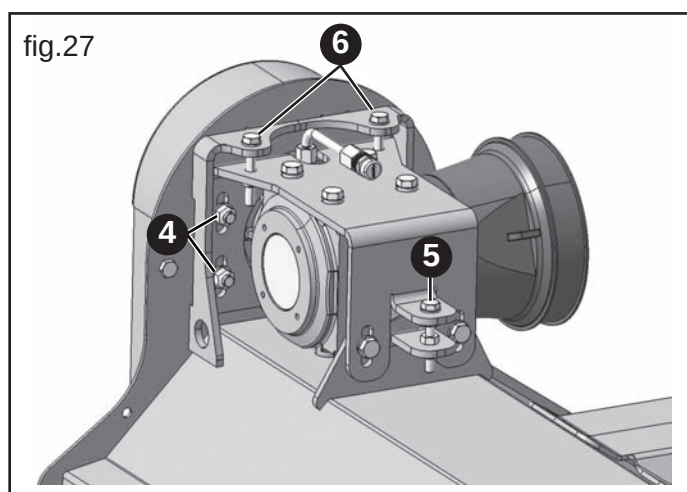

fig.27
- Loosen the screws that fix the upper pulley hub (4 fig.27 N.4) and overdrive unit (5 fig.27).
- Work on the screws (6 fig.27) in order to tighten the belts correctly.
- Work on the screw (5 fig.27) to adjust the proper alignment of the pulleys.
- Lock the screw that fixes the beltstretcher (4 fig.27).